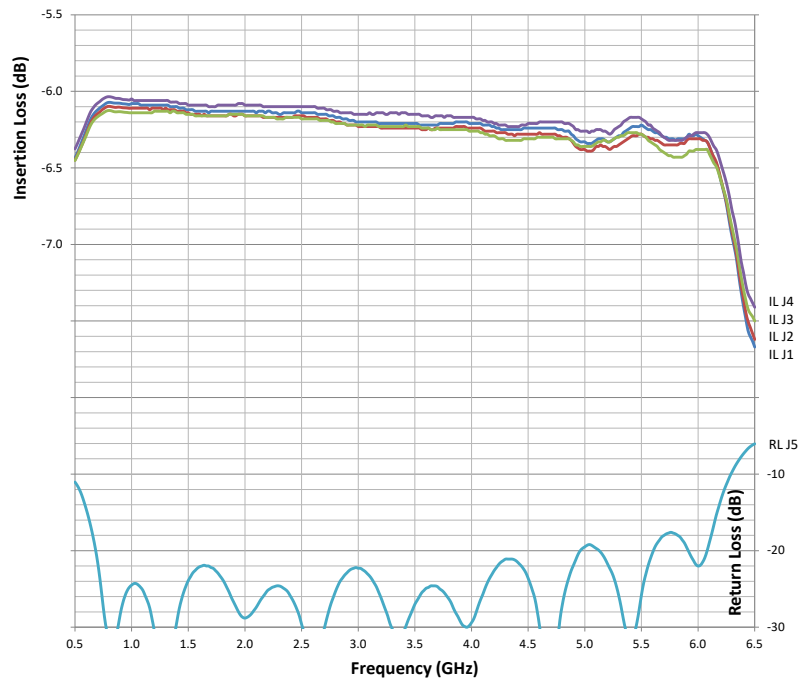

Figure 4-4. Typical Four-Way Splitter Insertion Loss
4. A typical Four-Way Splitter Insertion Loss is shown in Figure 4-4. The unused port must be terminated when checking the insertion loss.